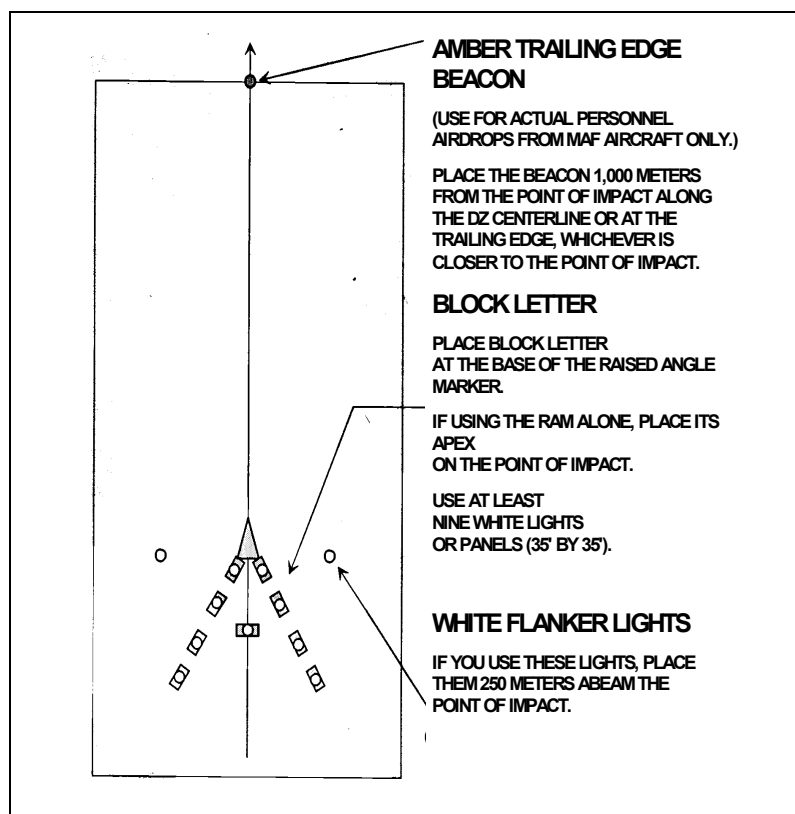

Figure 6-16. Drop zone placement (night).
(2) **Night Operations.** For night operations (Figure 6-16, page 6-30), mark the point of impact with--